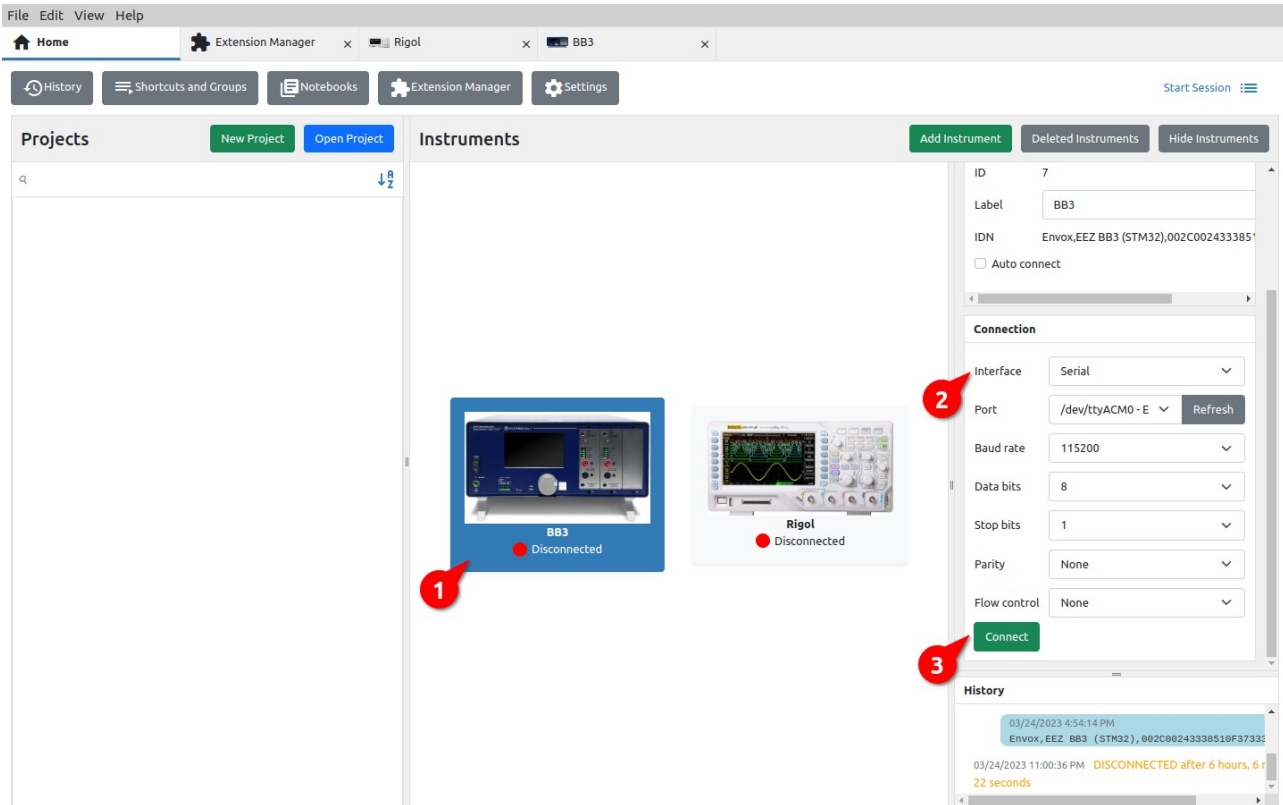

Fig. 25: Selecting an instrument on the workbench to establish a connection
Connection to the instrument added to the workbench will be possible as shown in Fig. 25: select the instrument from the workbench (1), select the interface in the Connection section (2) and click the Connect button (3).